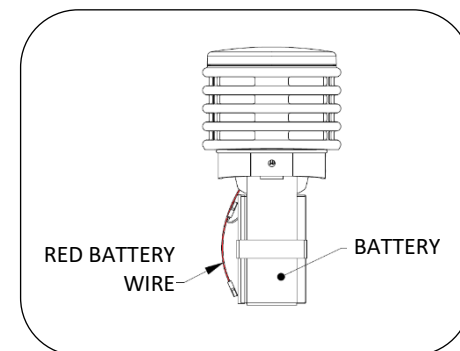

FIG. 7 - BATTERY CONNECTION
6. Connect red battery wire to red (positive) battery terminal, see Fig. 7. Connect black battery wire to black (negative) terminal. Use the silicone dielectric compound to encapsulate the exposed portion of the battery terminals.